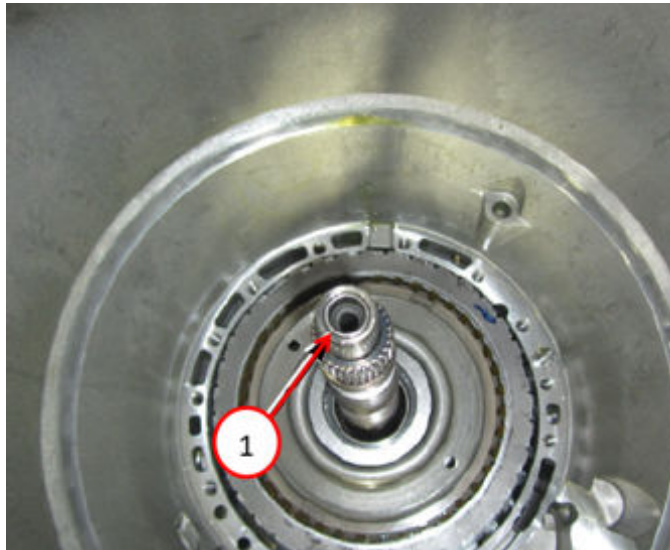

Fig. 19
27. Position the input/output shaft and P4 annulus drum assembly on a press fixture Fig. 19.